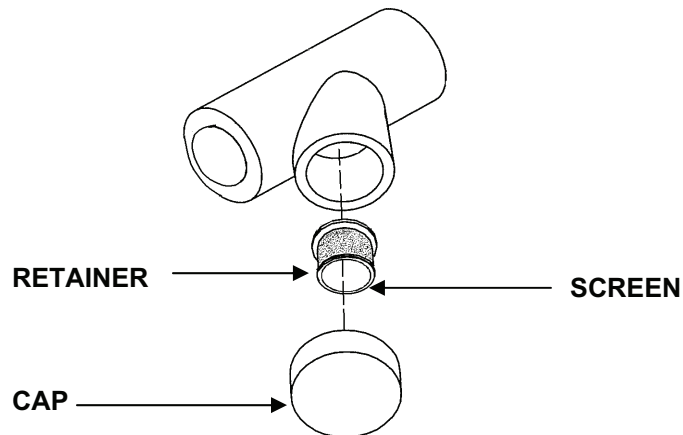

Figure 10. Y-Strainer.
1. Inspect the Y-strainer by removing the cap and check the screen inside. See Figure 10.